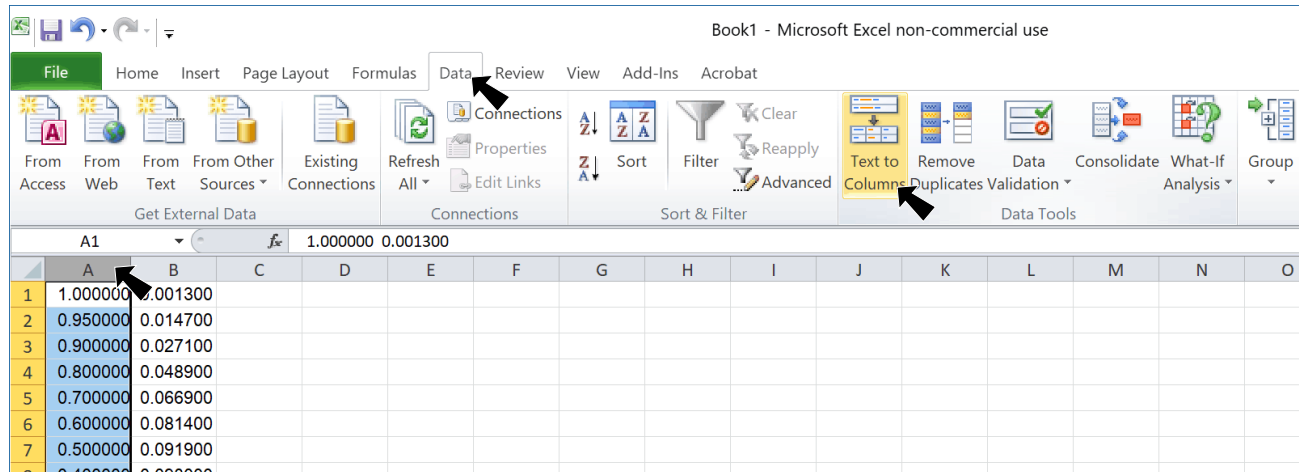

Fig. 5
Step 3. Scroll back to top and select first column, Fig. 5. To select column, click letter A heading at top of column.
Step 4. On the **Data** tab in the Data Tools group, click **Text to Columns**, Fig. 5.